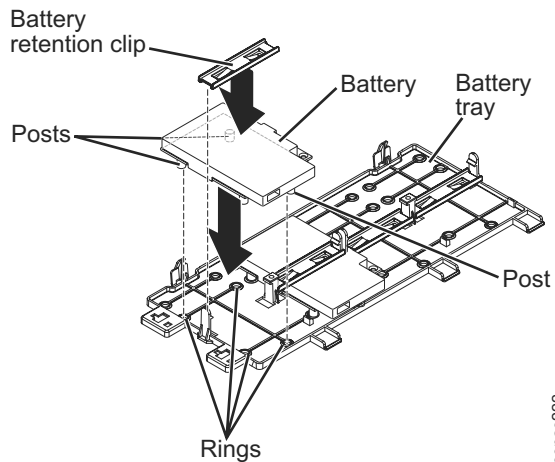

Figure 37. Locating the posts on the battery and battery carrier
3. On the remote battery tray, find the pattern of recessed rings that matches the posts on the battery and battery carrier. See Figure 37.